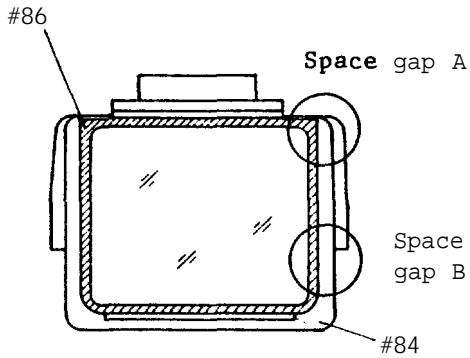

fig.1
(2) Eyepiece lens holder #86 fig.1